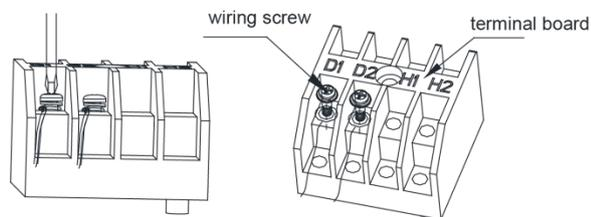
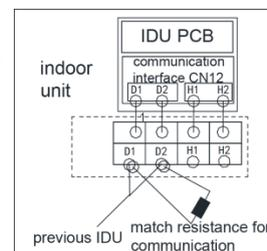

Fig.5.3.1
Fig.5.3.2
- (1) Detach the control box lid.
- (2) Let the Communication cable pass through the wiring through-holes.
- (3) Connect the communication wire to terminal D1 and D2 of indoor 4-bit wiring board, as shown in fig.5.3.1.
- (4) Fix the communication cable with clamp of electric box.
- (5) For more reliable communication, make sure connect the terminal resistor to the most downstream IDU of the communication bus (terminal D1 and D2), as shown in fig 5.3.2, terminal resistor is provided with each ODU.